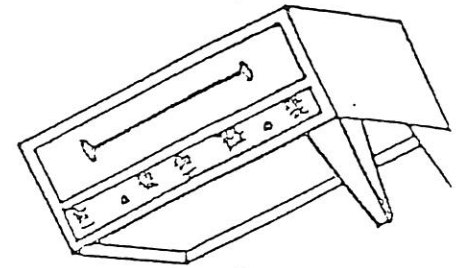

FIG. 1
2. Leg Installation - Mount legs on one side of the unit while blocked, (Refer to Figure 1.)